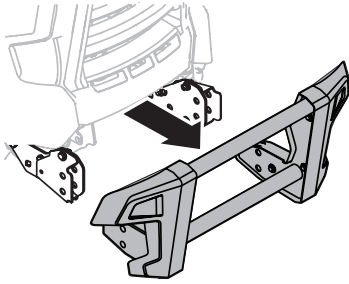

Figure 58
2. The brush guard assembly may now be removed (Figure 58).